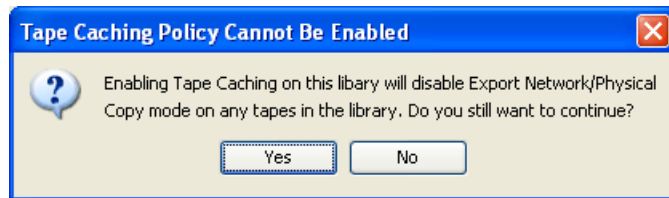

Figure 12-43 Confirm window
4. You can use Enhanced Tape Caching only if you are not currently using the Physical Copy/Network Copy feature on this virtual tape library (Figure 12-43). Click **Yes**.